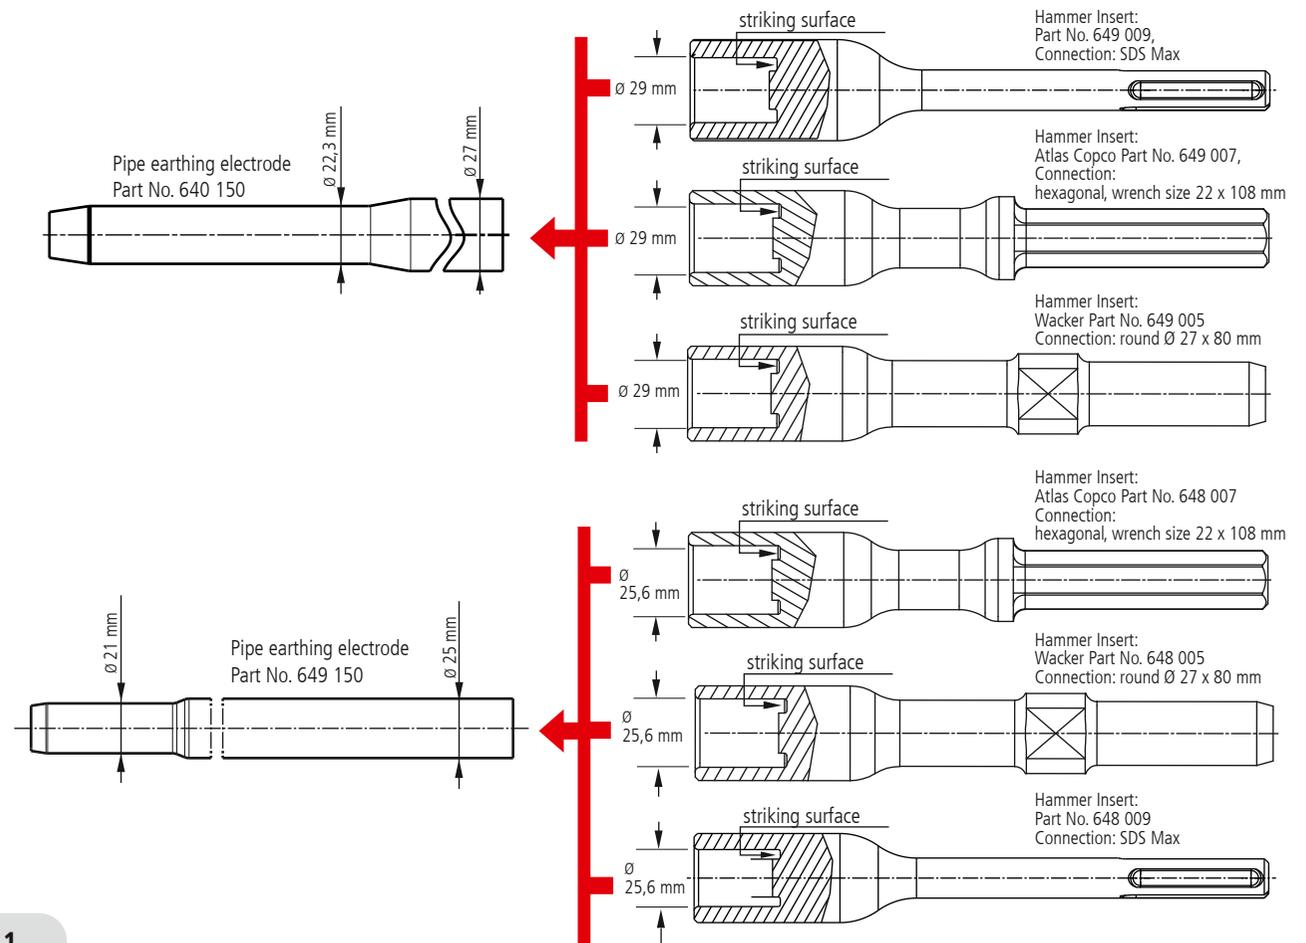

Fig. 1
- ➔ DEHN hammer inserts, suitable for the type of earth electrode and hammer used (see Fig. 1).
If unfavourable soil conditions (e.g. rocks) prevent further penetration, stop driving the earth rod into the ground (no visible penetration within approx. 2 minutes). If you continue to drive the earth rod into the ground, the tool and the earth rod may be damaged! In such cases, the desired earth resistance can be achieved by connecting several earth rods in parallel. If damaged tools are used, full utilisation of the striking power of the hammer is prevented and the coupling construction is destroyed. Therefore, it has to be particularly observed that the hammer insert used for driving the earth rod into the ground has an undamaged, plane striking surface (see Fig. 1).